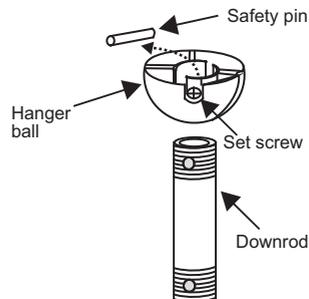

Fig. 10
3. If you plan to use the downrod packaged with your ceiling fan, remove the hanger ball by loosening the set screw, unscrewing the safety pin and unscrewing the hanger ball. If you are using a different downrod, skip to the next step. (Fig.10)